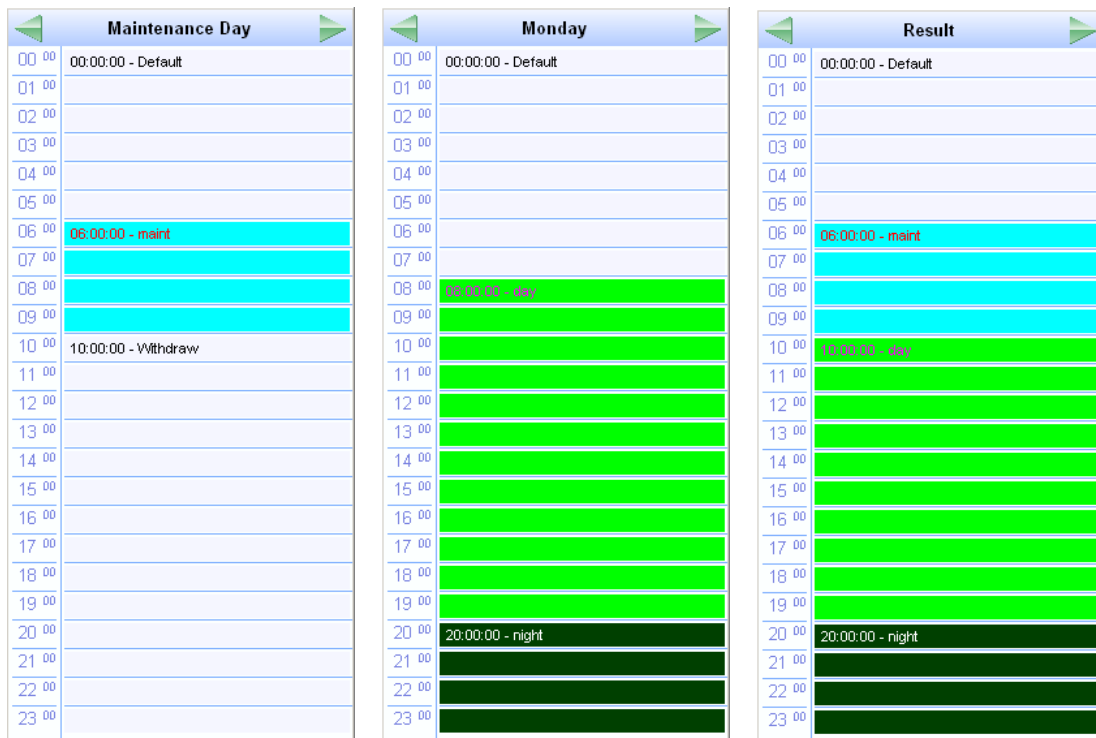

Figure 91: Example using withdraw in an exception schedule.
- **Withdraw:** If this value is scheduled, the scheduler takes the previously value preset out of effect. This means that the daily schedule with the next lower priority becomes effective. If no daily schedule with lower priority applies, the scheduler behaves as if it was disabled. Figure 91 presents an example of the *Maintenance Day* exception day, which schedules the *maint* value at 6 am and goes out of effect at 10 am. If the maintenance day falls on a Monday, the regular schedule for Monday will be overridden by the Maintenance schedule at 6 am and become effective again at 10 am sending the *day* value.